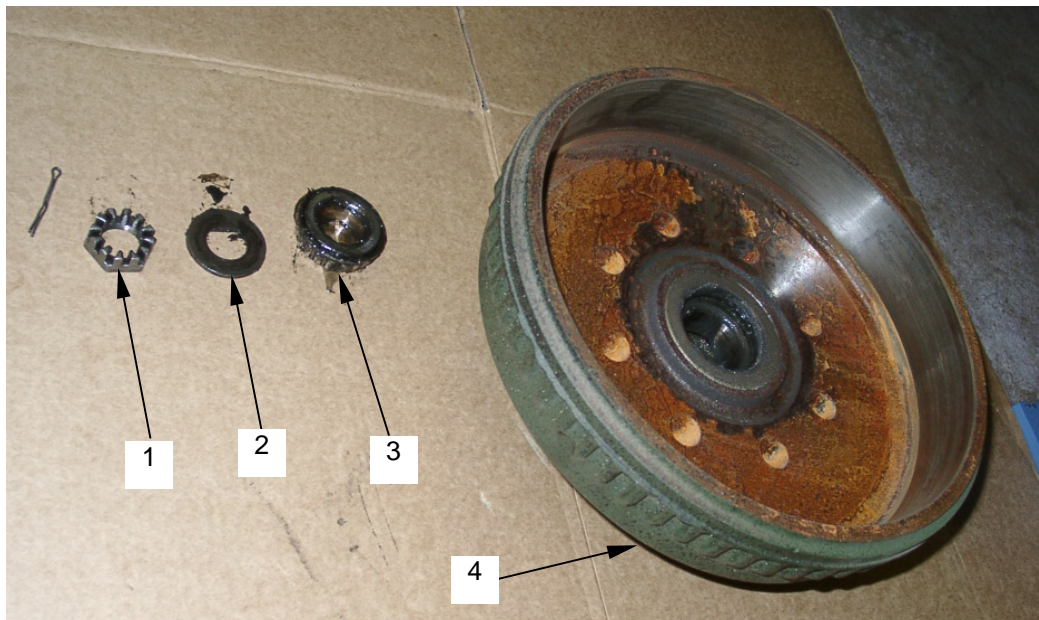

Figure 29. Brake Drum Parts
- p. Loosen and remove castle nut (figure 29, item 1).
- q. Remove washer (figure 29, item 2).
- r. Remove wheel bearing (figure 29, item 3).
- s. Remove brake drum (figure 29, item 4).